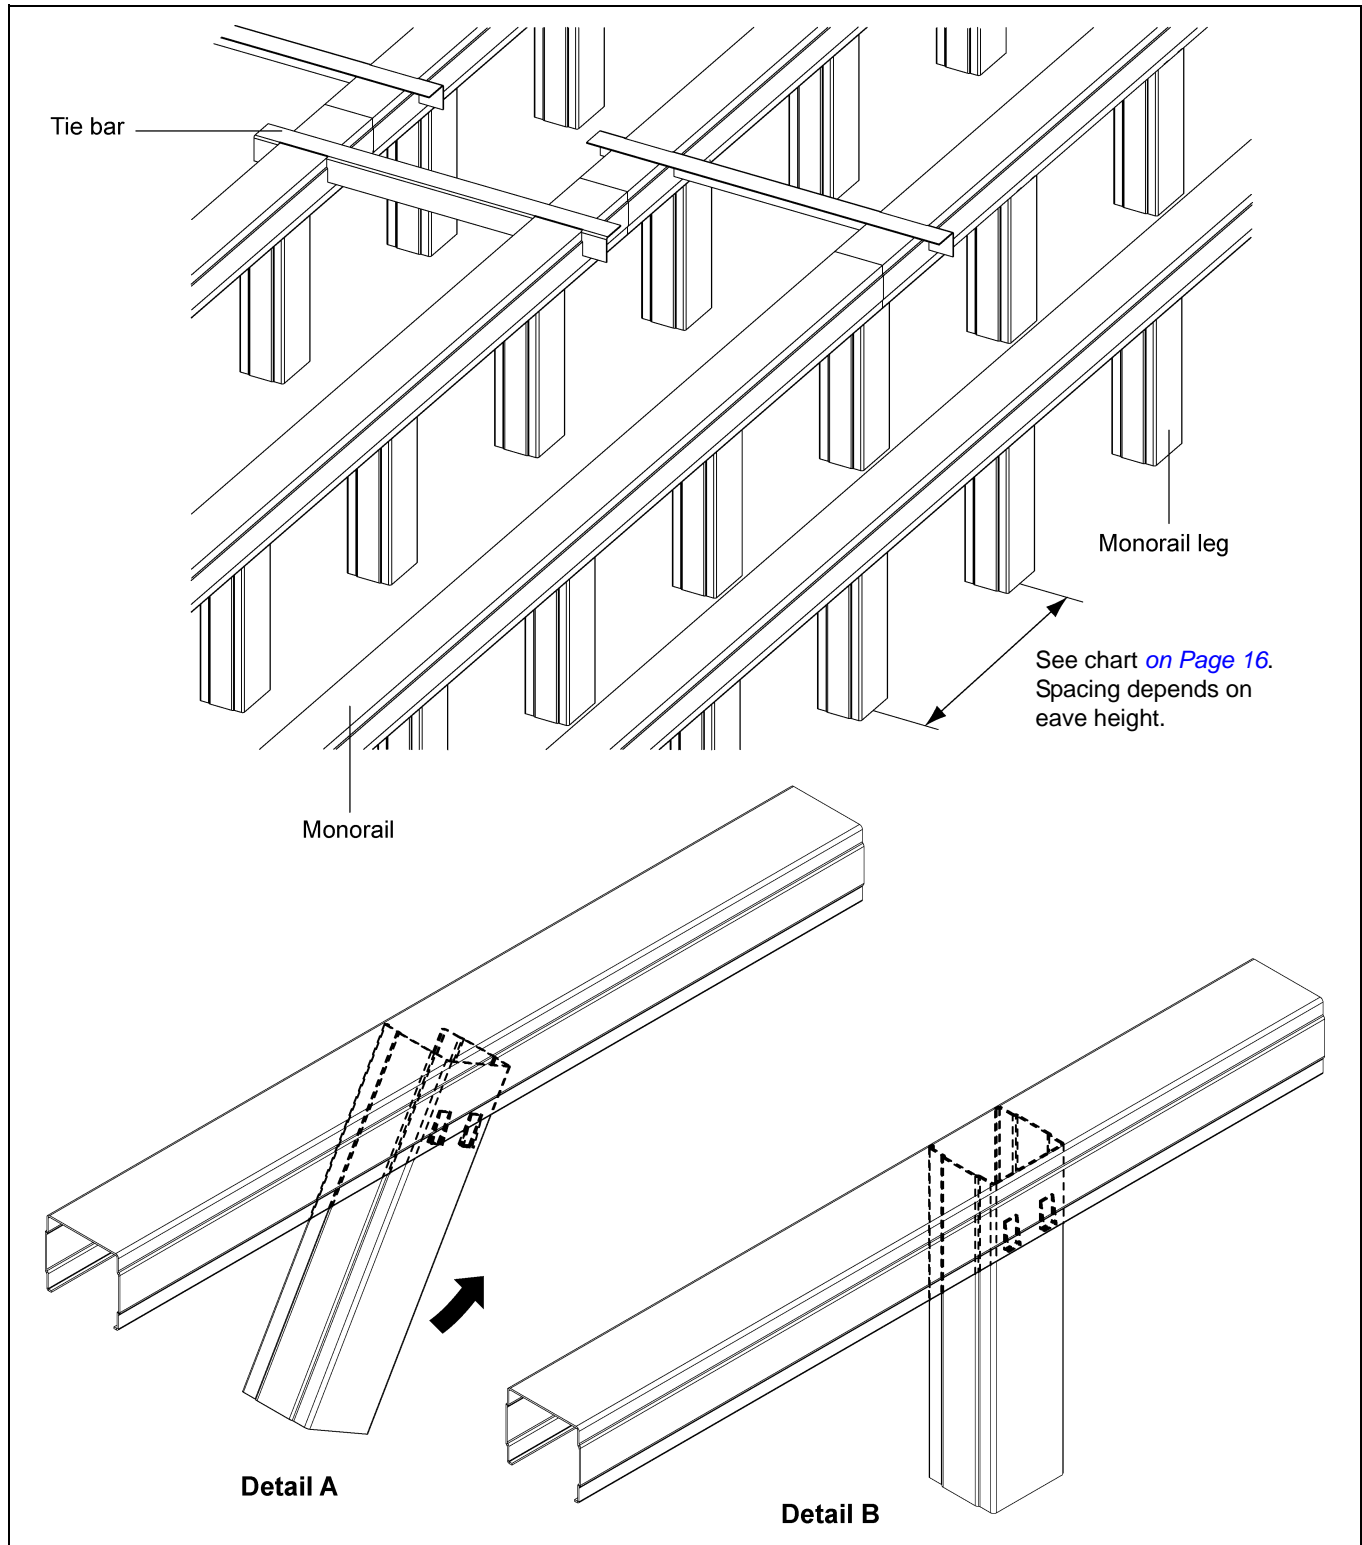

Figure 4E Assembly Leg Rail
1. Place two (2) corners of the monorail leg into the rails as shown.
3. The leg can then be pushed down into the rail until the tabs lock it into place. (See Figure 4E.)